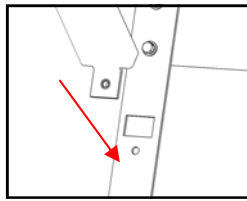

Figure 5
5. While one person holds the PV module in place, another person must insert the tab on the **Angle Brace** into the square hole on the side of the **North** and **South** faces (Figure 5)